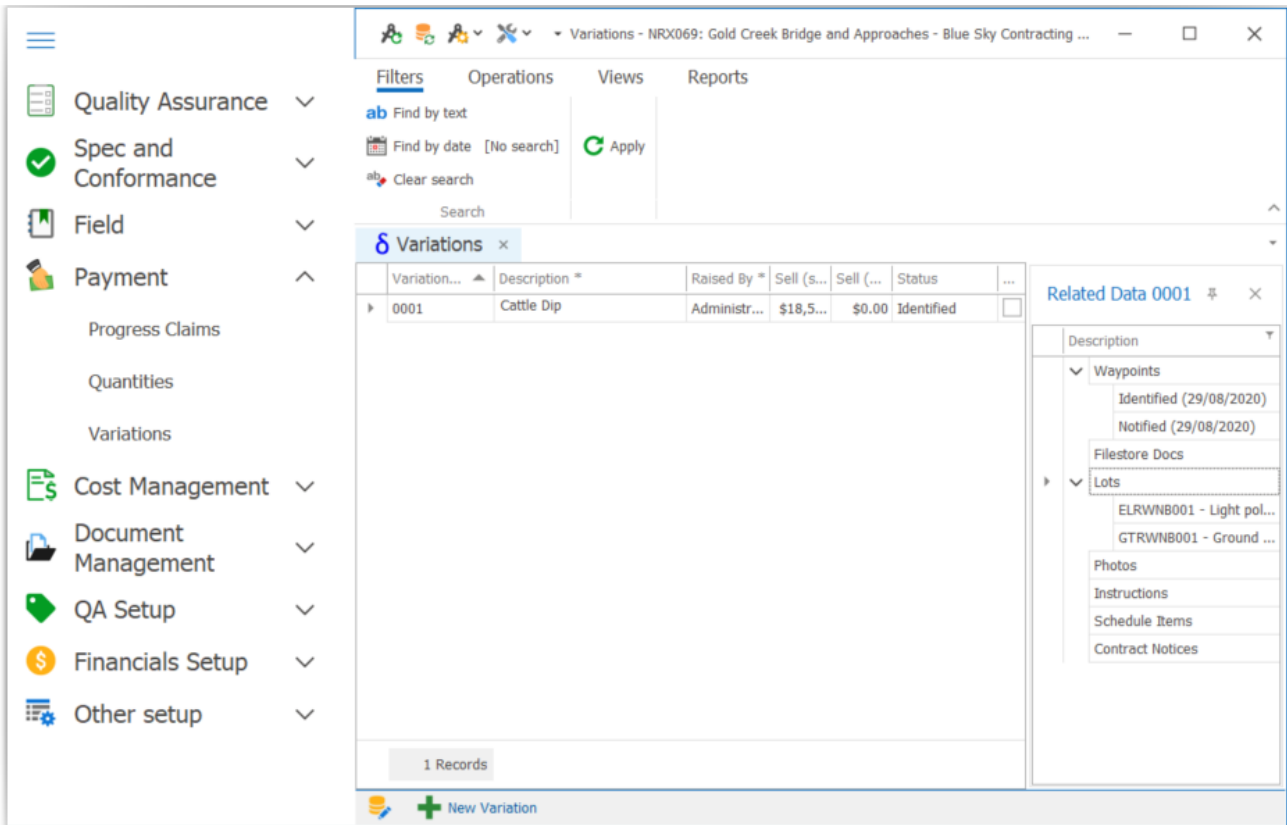

Figure 84 Variation register with linked Lots
6. Click *Save & Finish* - your Variation is now visible in the Variation Register. Now link the effected lots as you would any other related item i.e. double click on the Lots heading in the related items panel and select the lots from the Lot Selector. You Variations Register should look like that in Figure 84.